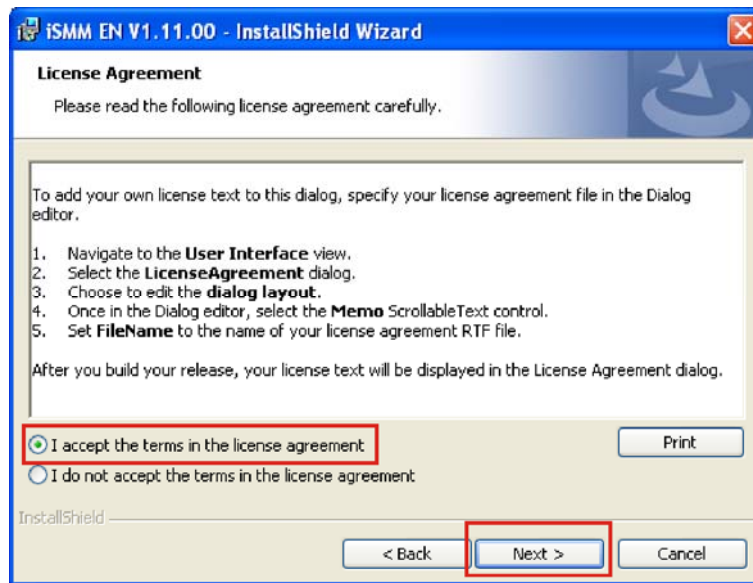

Figure 7-32: iSMM License Agreement
Step 9: The **License Agreement** screen appears. (Figure 7-32)
Step 10: Select "I accept the terms of the license agreement." (Figure 7-32)
Step 11: Click **NEXT** to continue.(Figure 7-32)